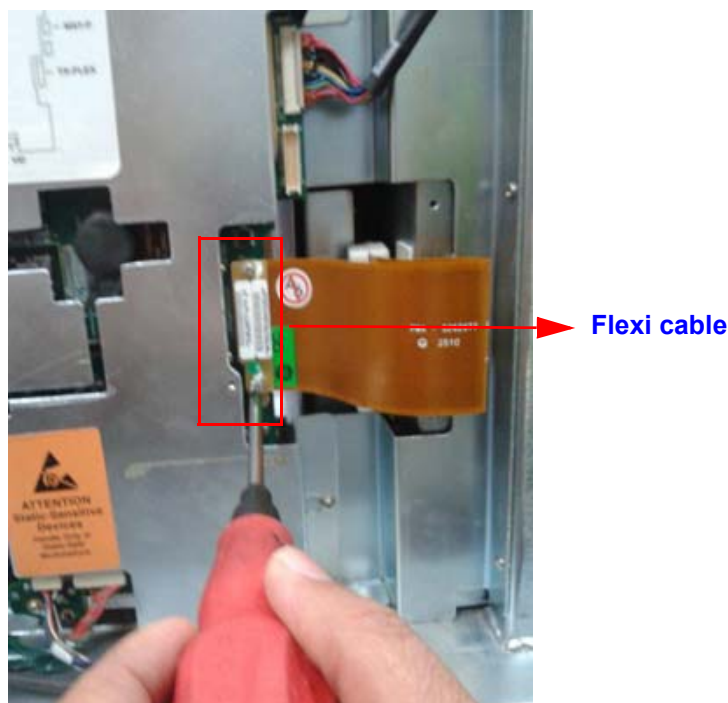

Figure 8-41 Removing Flexi cable of MST board
- 1) Removal of all cable assembly from MST to TX as shown below Figure 8-41 on page 8-41
Refer Figure 8-41 on page 8-41